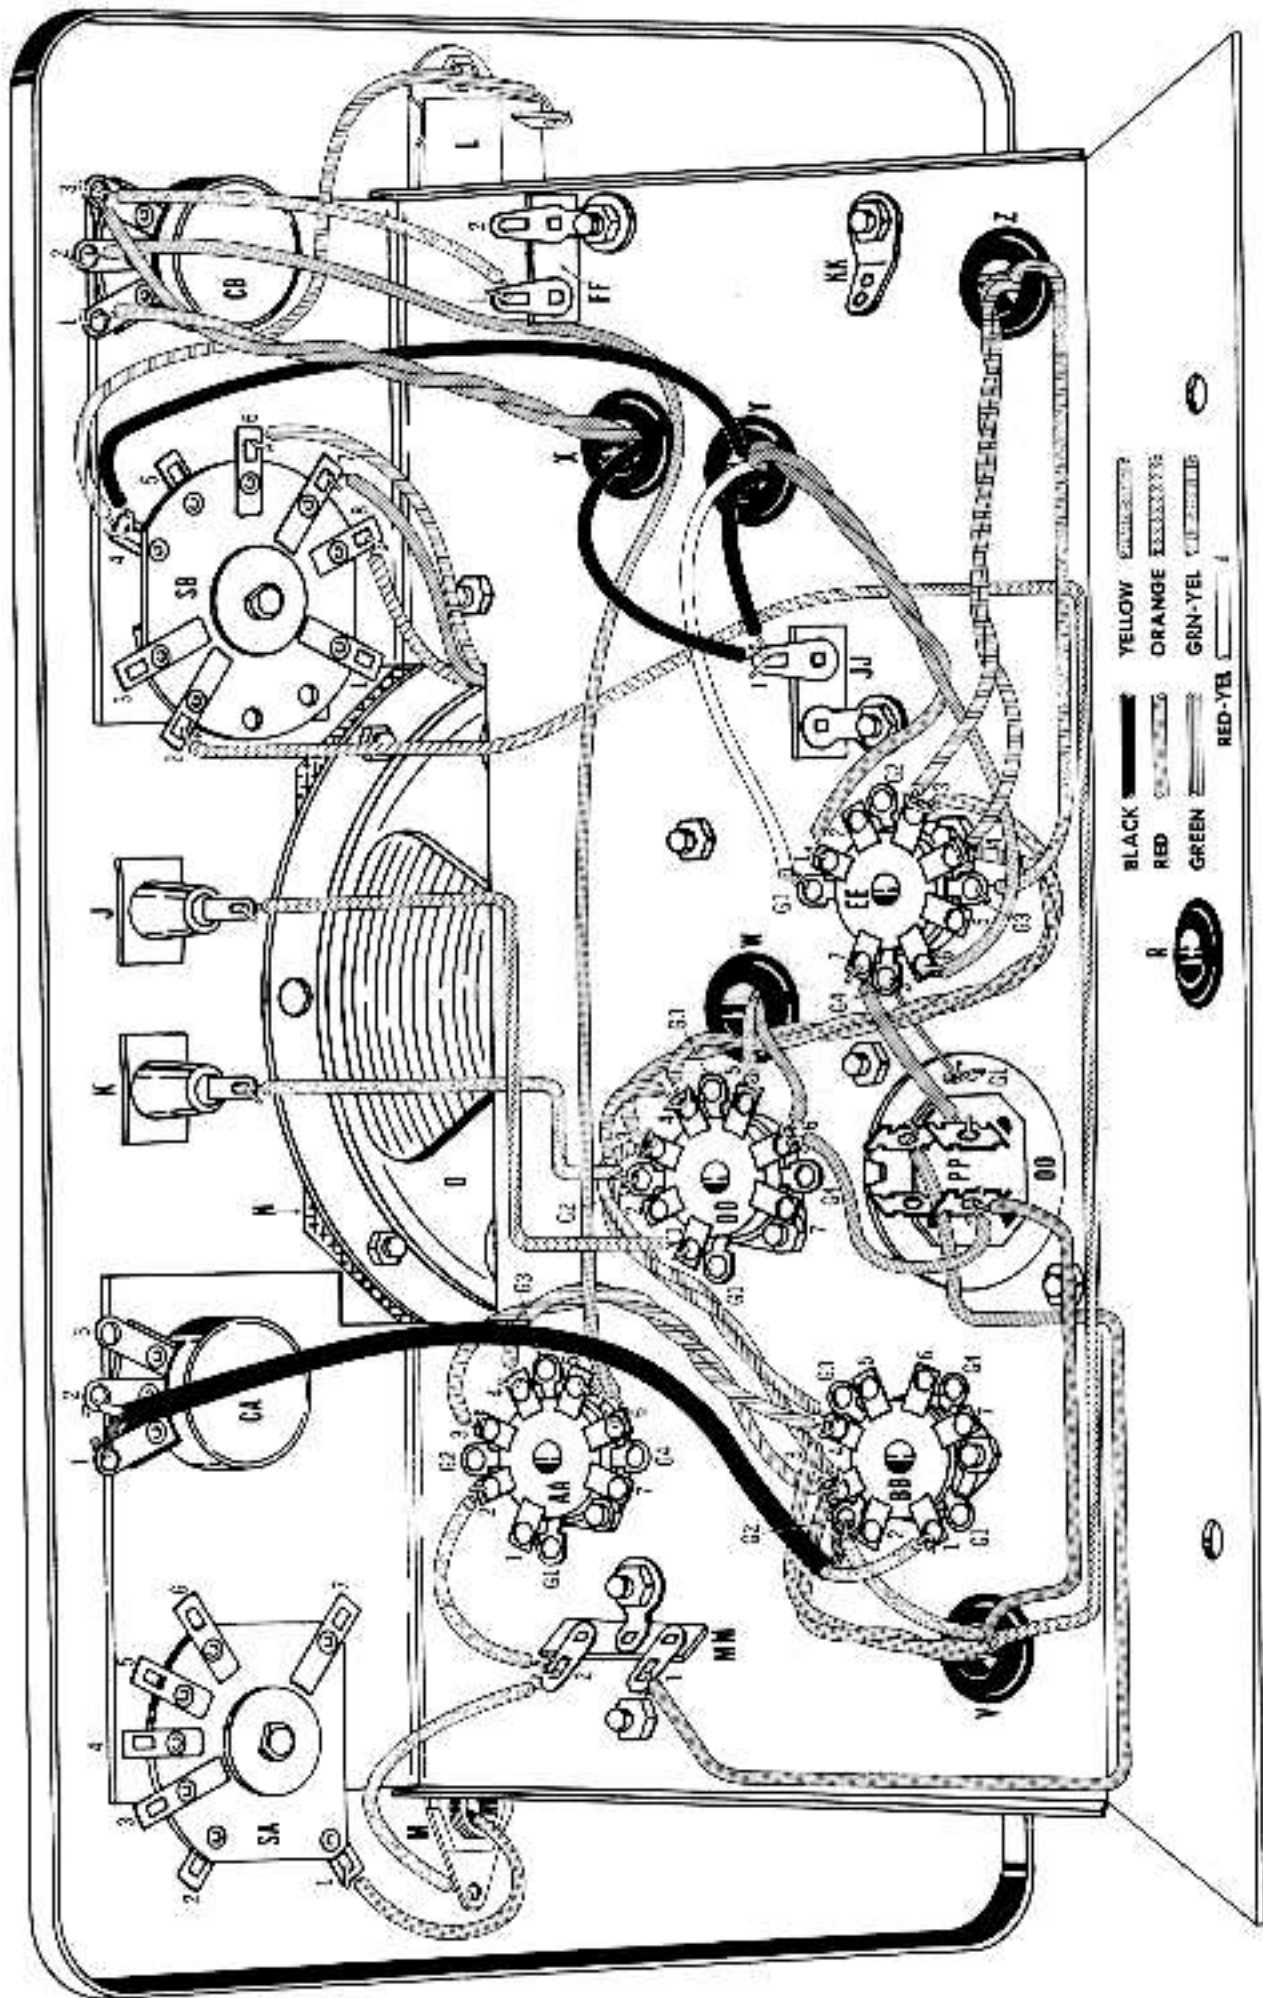

FIGURE 8
### REFER TO FIGURE 8
- ( ) 44. Connect a 3-1/4" length of yellow hook-up wire from G2 on socket DD (Solder), to pin jack K (Solder). Dress yellow wire as shown in Figure 8.
- ( ) 56. Connect an 8-1/2" length of red hook-up wire from MM1 (Don't Solder), to PP — (Don't Solder). Dress red wire as shown in Figure 8.
- ( ) 57. Connect a 10-1/2" length of red hook-up wire from CB2 (Solder), through AA6 (Don't Solder) to AA5 (Solder), now solder AA6. Dress red wire as shown in Figure 8.
- ( ) 63. Connect one end of a 7-3/4" length of red hook-up wire to PP ■ (Don't Solder). Insert the other end through grommet V, and leave disconnected at this time. Dress red wire as shown in Figure 8.
- ( ) 64. Connect a 3-1/2" length of red hook-up wire from PP ■ (Don't Solder), to DD6 (Don't Solder). Dress red wire as shown in Figure 8.
- ( ) 67. Connect a 4-3/4" length of orange hook-up wire from DD1 (Solder), to pin jack J (Don't Solder). Dress orange wire as shown in Figure 8.
- ( ) 68. Connect one end of a 16" length of orange hook-up wire to SB2 (Solder). Dress the wire as shown in Figure 8, insert the other end through grommet V, and leave disconnected at this time.
- ( ) 72. Connect a 4-1/2" length of green hook-up wire from SB4 (Solder), to L1 (Solder). Dress green wire under control CB as shown in Figure 8, being careful to keep wire away from sharp edge of chassis.